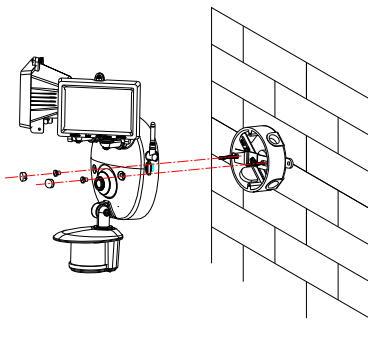

FIGURE 11
- (5) Place the wiring box and secure it with the two screws provided (FIGURE 11).